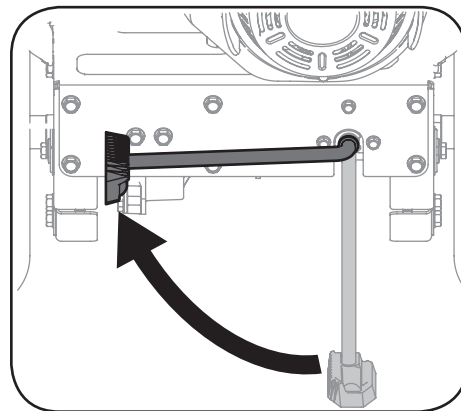

Figure 4-2
1. Roll the FLEX™ Power Base over to the dethatcher attachment with the kickstand UP. See Figure 4-2.